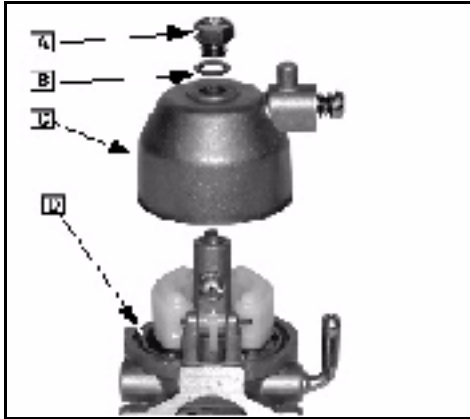

Fig. 109
1. Remove bowl mounting screw (A) and float bowl (C). Discard float bowl gasket
(D) and float bowl screw washer ([B] Fig. 109).